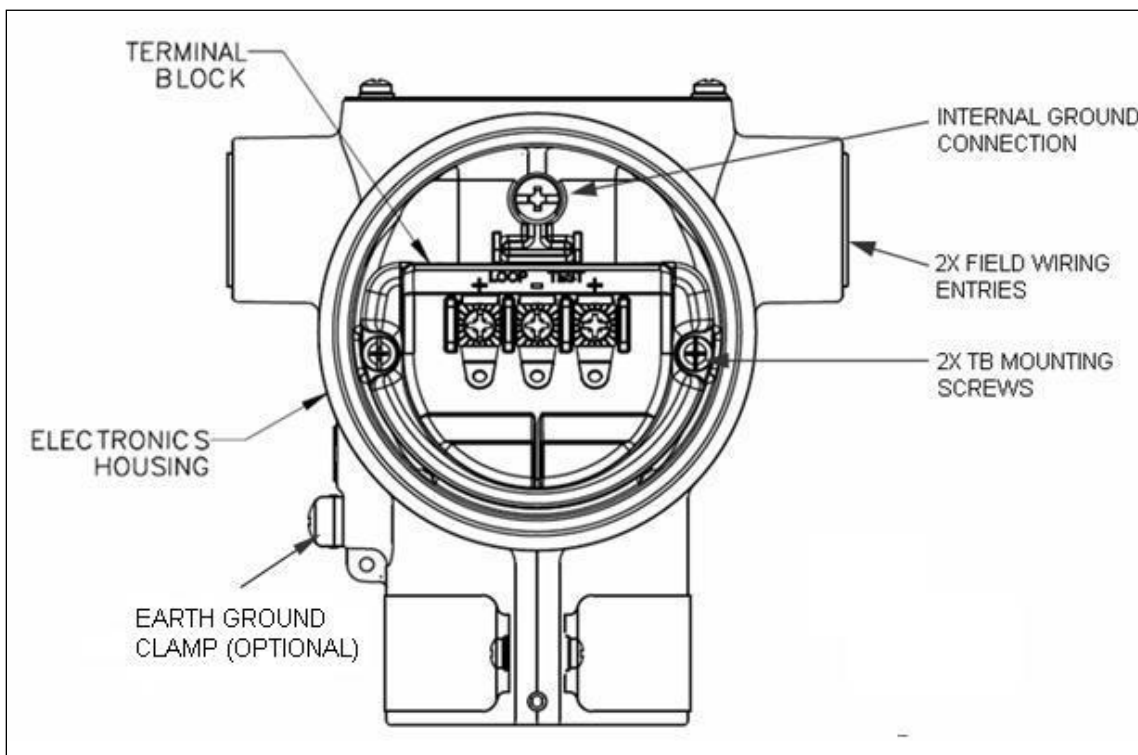

Figure 55 – ST 700 Basic Transmitter - 3-Screw Terminal Board and Grounding Screw
Loop wiring is connected to the Transmitter by simply attaching the positive (+) and negative (–) loop wires to the positive (+) and negative (–) terminals on the Transmitter terminal block in the Electronics Housing shown in Figure 55
As shown in Figure 55 each Transmitter has an internal terminal to connect it to earth ground. Optionally, a ground terminal can be added to the outside of the Electronics Housing. While it is not necessary to ground the Transmitter for proper operation, doing so tends to minimize the possible effects of noise on the output signal and affords protection against lightning and static discharge. An optional lightning terminal block can be installed in place of the non-lightning terminal block for Transmitters that will be installed in an area that is highly susceptible to lightning strikes.
7. See Figure 55 above, for parts locations. Loosen the end cap lock using a 1.5mm Allen wrench.